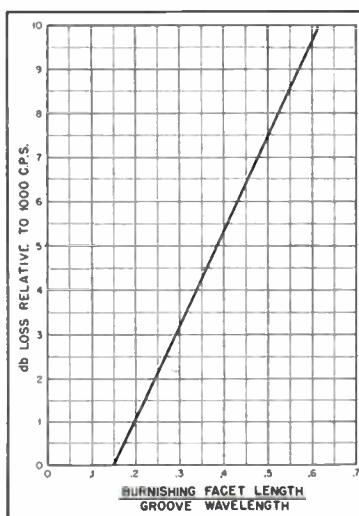

Fig. 2. Generalized effect of burnishing-facet length.
Fig. 2.(B) When used under pressure, diaphragm is pushed inward, providing contact on only a portion of the crystal surface. (A) Pressure behind the crystal bulges diaphragm outward, provides contact only on corners.
We have used the generalized solution given by the above reference—a graph showing the relation between the fraction: burnish length/wavelength, and the attenuation in recording. We have taken the liberty of continuing the main trend for a db further than the reference has, for reasons that will be evident on inspection of his data. This slightly modified graph appears as Fig. 2.